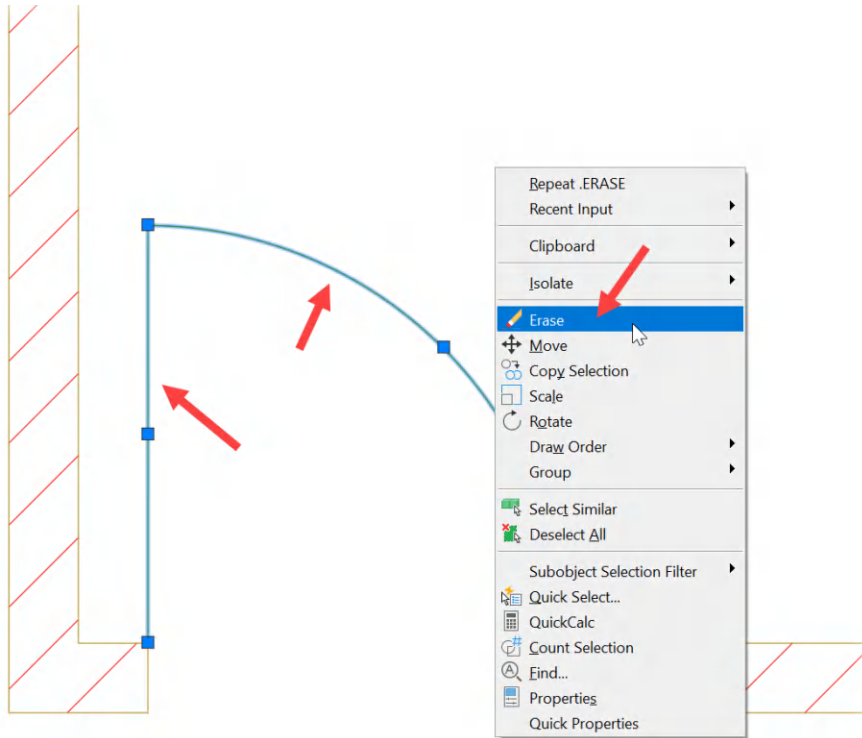

Figure 9.3: The original line and arc selected, ready to be removed using the Erase command in the shortcut menu
2. Ensure that the line and arc representing the existing door are selected. Then, using the **Erase** (ERASE) command, remove the line and the arc, to leave only the door opening in the wall. In this case, the right-click shortcut menu was used after the objects were selected, and **Erase** was selected on the shortcut menu, as shown in *Figure 9.3*.
When you want to remove objects from your drawings, you use the **Erase** (ERASE) command. This can be expedited in several ways. You can use the **Erase** icon on the **Modify** panel on the **Home** tab on the ribbon, select the objects to be erased, and press *Enter* to confirm. You can also use the right-click shortcut menu once the objects to be erased are selected and select **Erase** (see *Figure 9.3*), or you can simply type ERASE and press *Enter*, select the objects to be erased, and press *Enter* again to confirm.